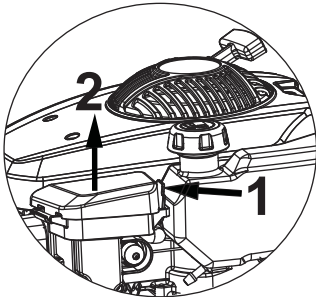

Fig. 14
1.Unlock the latch (1) and pull upward to open the air filter compartment (2). (Fig.14)